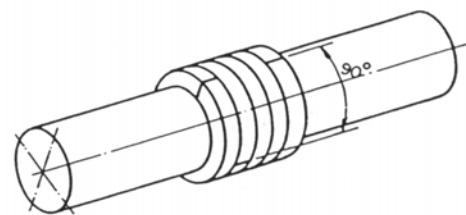

Fig. 15 – Ring position with ends positioned 90 degrees from each other
- Proceed to the assembly in the inverse sequence of the disassembly, introducing each part into the stuffing box chamber with the help of the gland cover. The packing rings should be mounted with their ends positioned 90 degrees from each other (see Fig. 15).